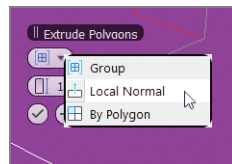

FIGURE 4.8
5. Change the Extrusion type to Local Normal, as shown in Figure 4.8.